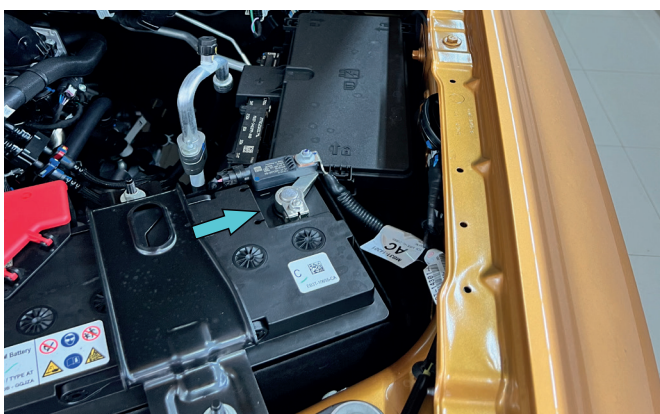

Fig.69
68. Connect terminal "-" on the battery (fig.69).